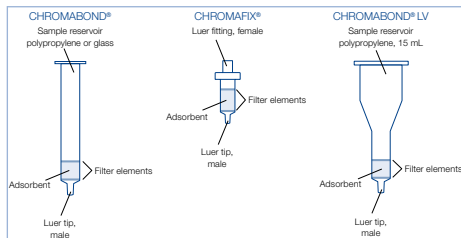

Figure 2: Hardware options for CHROMABOND® and CHROMAFIX® cartridges
MACHEREY-NAGEL supplies such manifolds in 3 different versions for up to 12, 16 or 24 CHROMABOND® columns or CHROMAFIX® cartridges, respectively (Figure 2). The manifolds consist of a rectangular glass cabinet (1) with vacuum gauge (3) and a polypropylene lid (2), which can hold the columns or cartridges. With the control valve (4) the vacuum in the chamber can be adjusted and read from the gauge. The replaceable valves / stopcocks (5) on the lid allow individual vacuum control for each solid phase extraction column, if required.